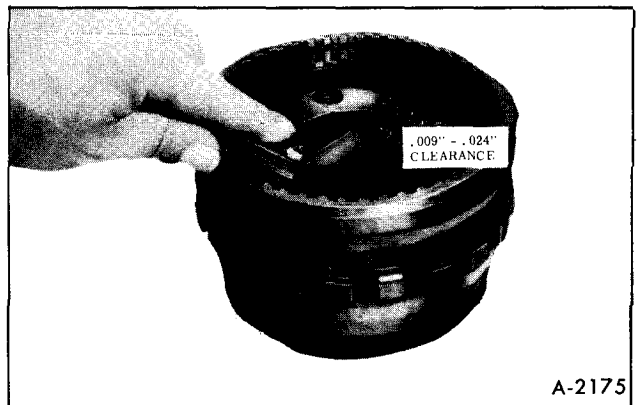

Figure 58—Check-Pinion End Play
3. Check pinion end play. Pinion end play should be .009 inch-.024 inch, Figure 58.